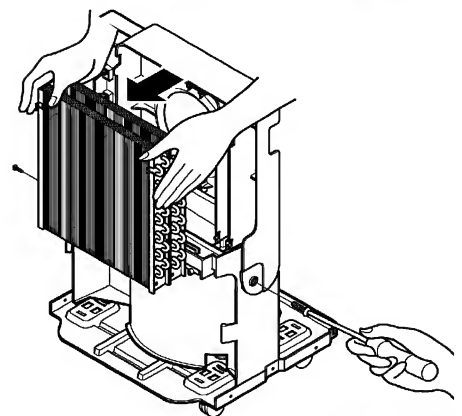

Figure 24
4. Unfasten 2 screws that secure the shroud on the sides and then lift shroud from the drain pan. (See Figure 24)